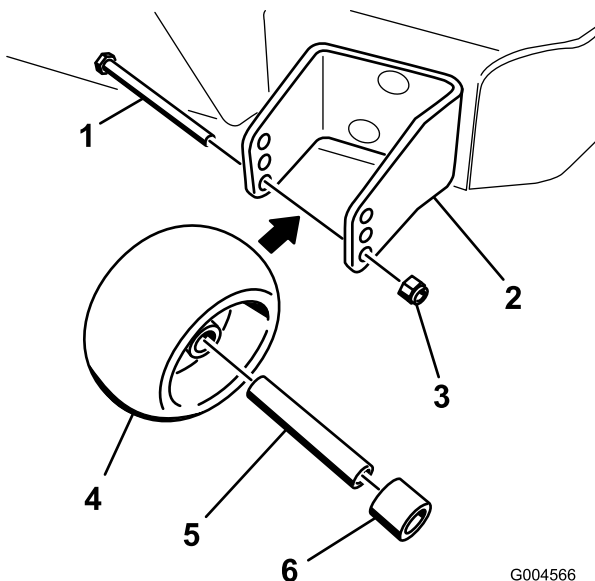

Figure 17
3. After adjusting the height-of-cut, adjust the rollers by removing the flange nut, bushing, spacer, and bolt (Figure 17).
5. Install the flange nut, bushing, spacer, and bolt. Torque to 40-45 ft-lb (54-61 N•m) (Figure 17).